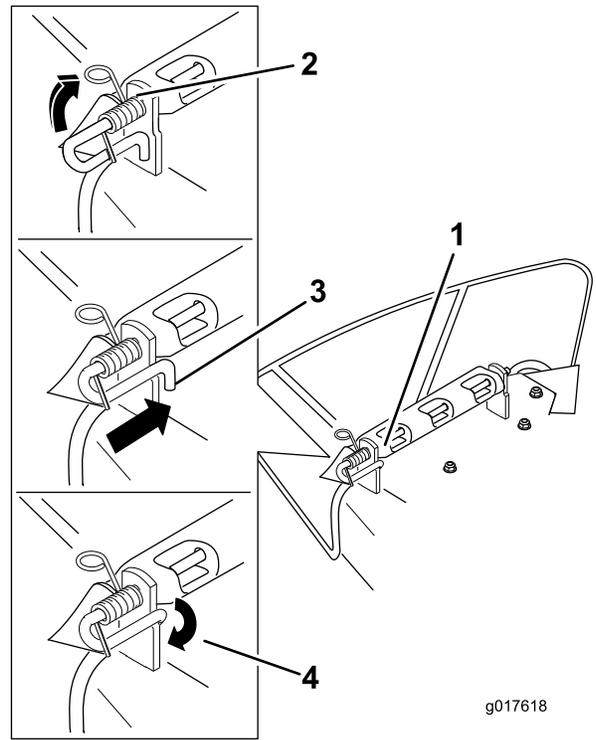

Figure 61
3. Position the new discharge deflector with the bracket ends between the welded brackets on the deck as shown in Figure 61.
6. Lift the loop end of the spring and place it into the notch on the deflector bracket (Figure 61).
7. Secure the rod and spring assembly by twisting it so the short end of the rod is placed behind the front bracket welded to the deck (Figure 61).